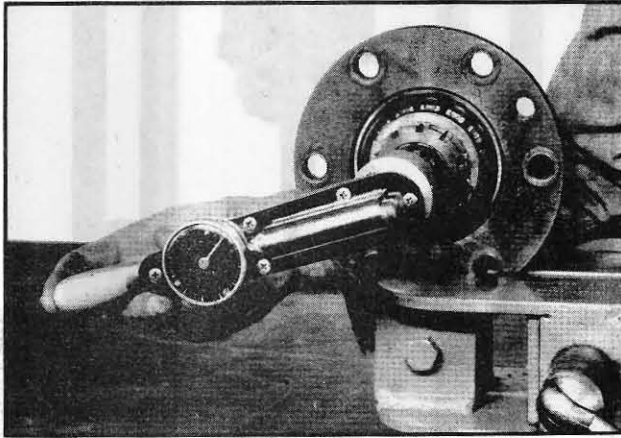
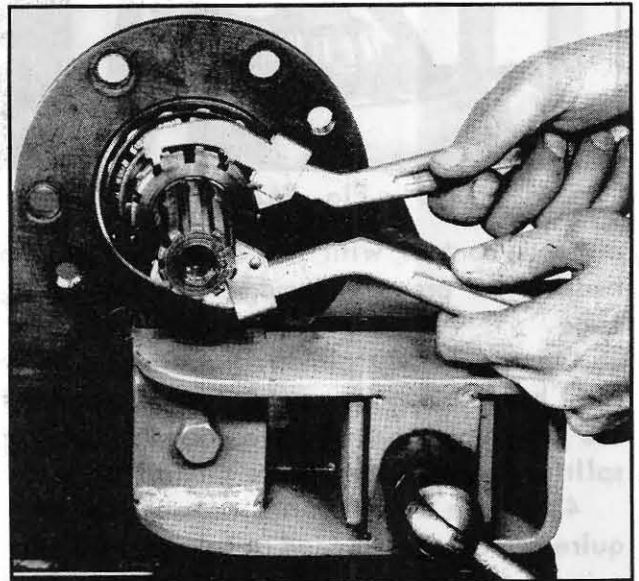

Fig. 265
Fig. 266
5. Place the assembly in a vise and tighten the lock nut until a drag of 6-8 pound-inches is obtained when rotating the pinion shaft steadily. Use the special socket, SDT-110, and pound-inch torque wrench as shown in Fig. 265. After the proper torque is obtained, tighten the locking nut using two spanner wrenches as shown in Fig. 266. Lock the nuts securely with the special lock washer.